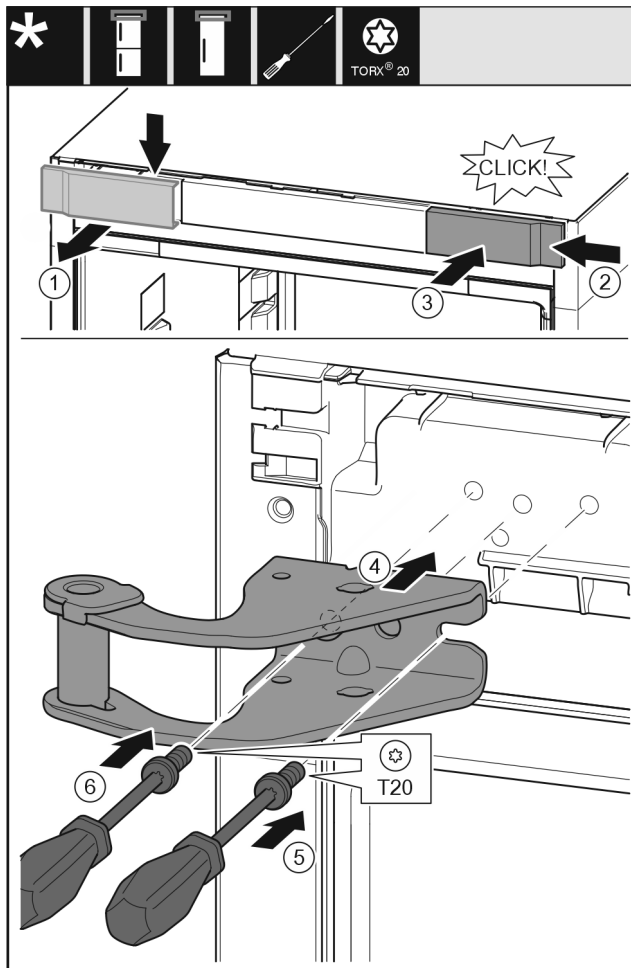

Fig. 13
- ▶ Remove the cover Fig. 13 (1) from the top towards the front.
- ▶ Hang the cover Fig. 13 (2) from the right turned by 180° to the other side.
- ▶ Snap in the cover Fig. 13 (3).
- ▶ Attach the top swap bearing block Fig. 13 (4).
- ▶ Attach and tighten the screw Fig. 13 (5) with a screwdriver.
- ▶ Attach and tighten the screw Fig. 13 (6) with a screwdriver.